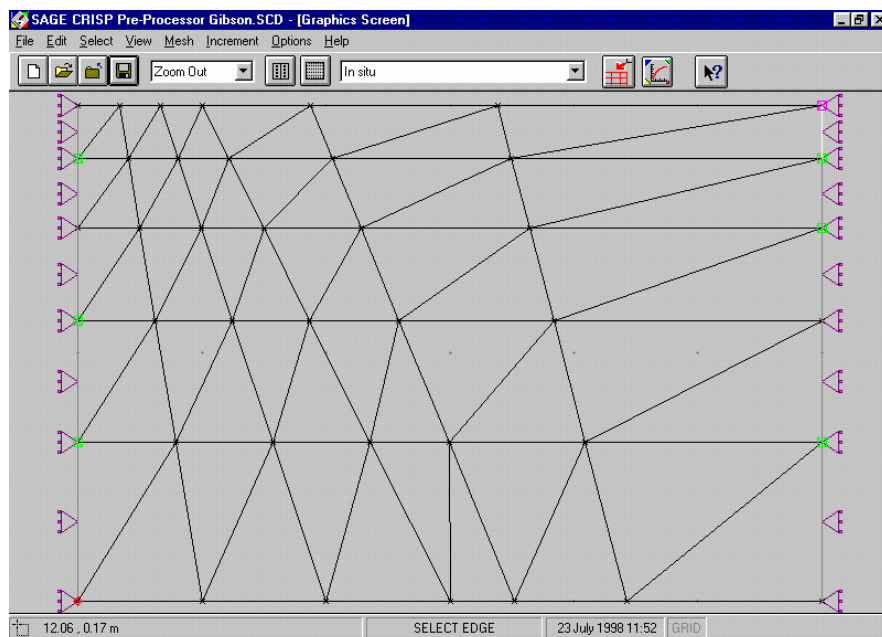

Figure 4-21: Fixities Defined for the Left and Right Vertical Sides
- Step 8** The Graphics Window should look similar to Figure 4-21. If no fixities are visible, click on **Fixities** in the View menu (a tick will appear to the left of the item when it is active).